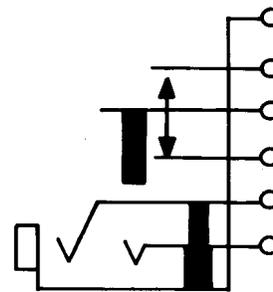

Fig. 14—483C or CM Jack
2.09 483C and CM: These single-mounted jacks (Fig. 14) are intended to be mounted with the springs in a vertical plane. These jacks are used with the 309 or similar-type plugs.